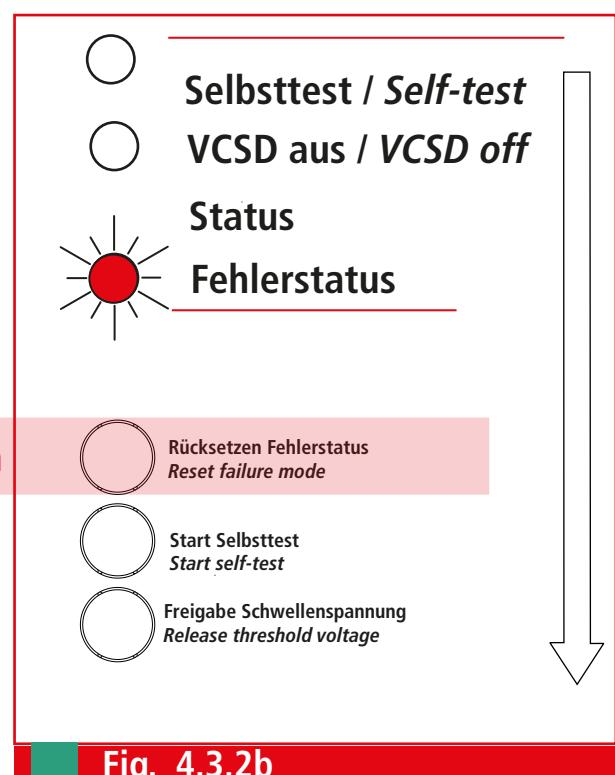

Fig. 4.3.2b
- After analysing (see Table 1, page 23) and eliminating the fault, if any, the failure mode can be reset by pressing the "**Reset failure mode**" button (see Fig. 4.3.2b).